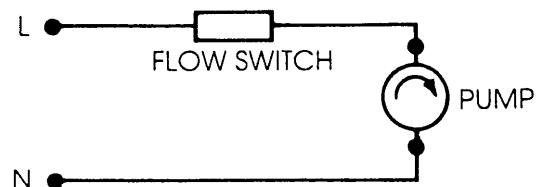

FIGURE 1
- 4.0 There is no electrical output from the flow switch, only switching capability. It should be connected to the device to be switched as shown in figure 1. (Mains version FS-01 only)